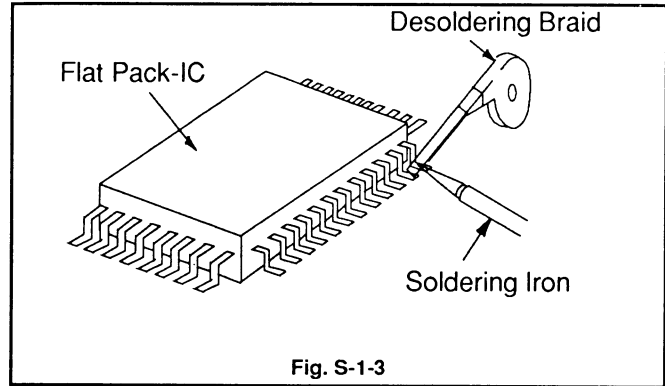

Fig. S-1-3
- (1)Using desoldering braid, remove the solder from all pins of the flat pack-IC. When you use solder flux which is applied to all pins of the flat pack-IC, you can remove it easily. (Fig. S-1-3)